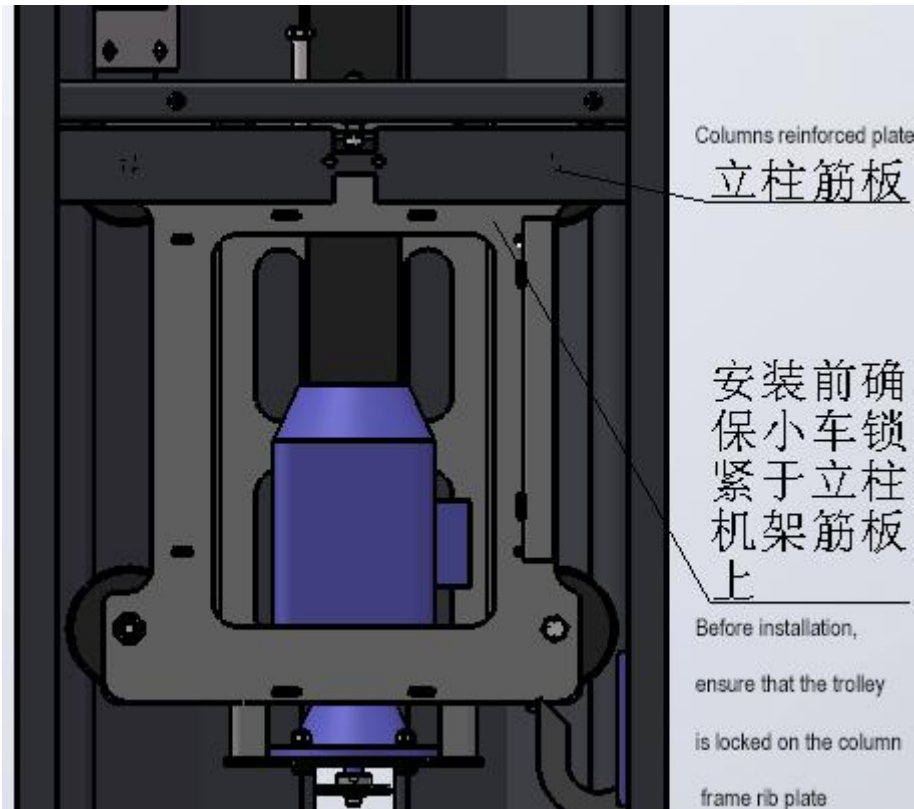

Figure 4.1
- (1) Move the equipment to the installation area with a forklift, remove the outer packaging, binding materials and objects for the fixed equipment.
- (2) Take out the tools, check if there is something missing, and put them neatly.
- (3) Ensure that the trolley is locked on the column frame rib plate, in order to prevent the lifting body and the base bump against the damage of parts in the process of column erection. As shown in Figure 4.1 .